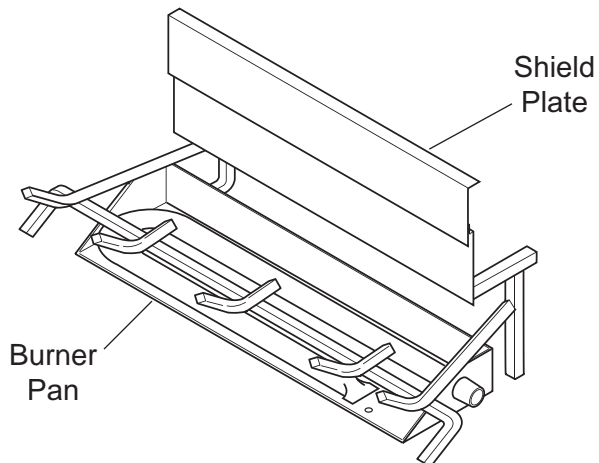

Figure 130 - Sliding Shield Plate Down Back of Burner Pan
1. Slide shield plate down back of burner pan. *See Figure 130.*